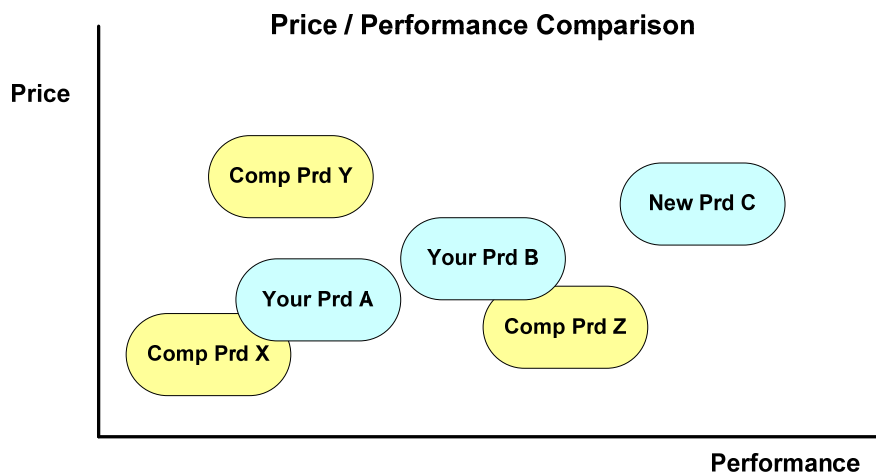

Figure 2 – Simple Positioning Example
**Positioning** – There are two elements to this assessment – the first is a simple comparison of market share over several years to see your relative position and market share trend. The second and more complex assessment is a comparison of product attributes to better understand what is driving changes in market share. The two dimensional map in Figure 2 provides an example of how price and some measure of product performance might stack up for two hypothetical firms (blue and yellow). This example suggests the following product evolution:
3. The yellow competitor appears to have released a slightly improved third generation product (Z) at a significantly lower price.
4. Blue must now consider whether their third generation product (C) will succeed with substantially higher performance but higher price as well.